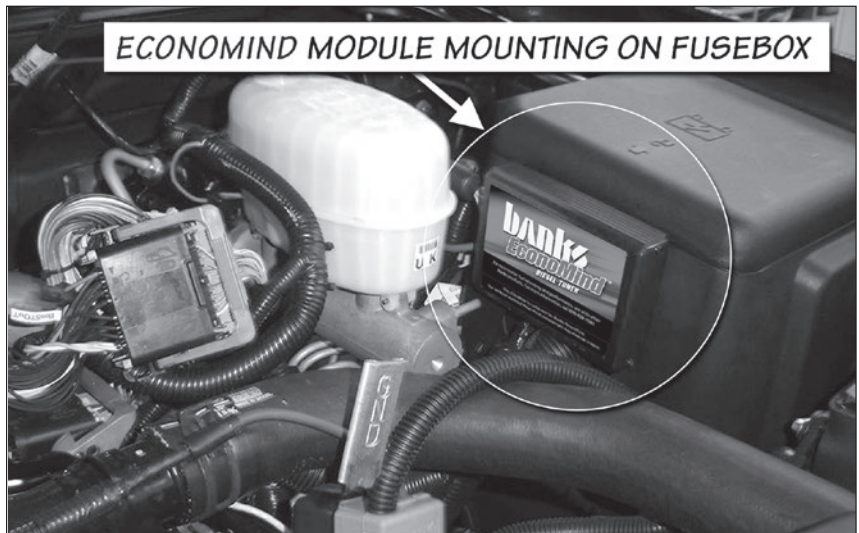

Figure 5.4 EconoMind module mounting on fuse box
9. The EconoMind is to be installed under the hood on the outside of the fuse box, with the wire harness facing towards the rear of the vehicle (see **Figure 5.4**). Make sure the outside of the fuse box is free of oil, grease and dirt.